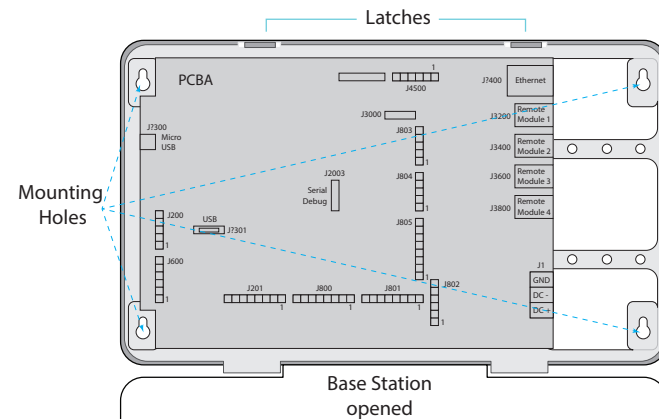

Fig. 1.2
- 3** If you are replacing an existing HME product such as EOS®, and mounting the base station close to the location of the base station you are replacing, you may be tempted to reuse the existing wires/cables without rerouting new ones. However, the customer has purchased a new system that requires routing new cables. Open the base station and mark the mounting location on the wall using the four mounting holes at each corner (see Fig. 1.2). Mount the base station using the provided hardware.